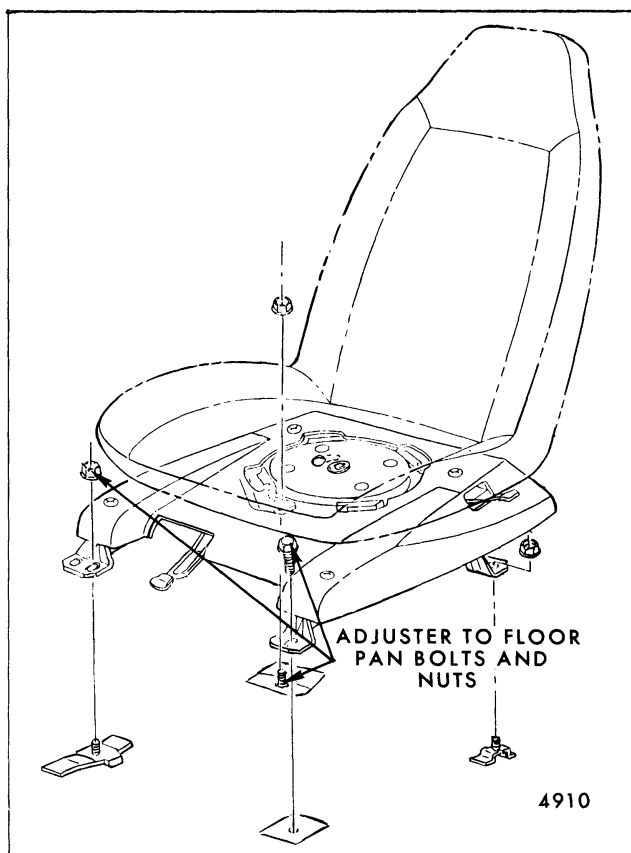

Fig. 9-14-Front Seat - Swivel Bucket Seat (Drivers Side Shown - Passenger Side Typical)
9. Fig. 9-14-Swivel Bucket Seat